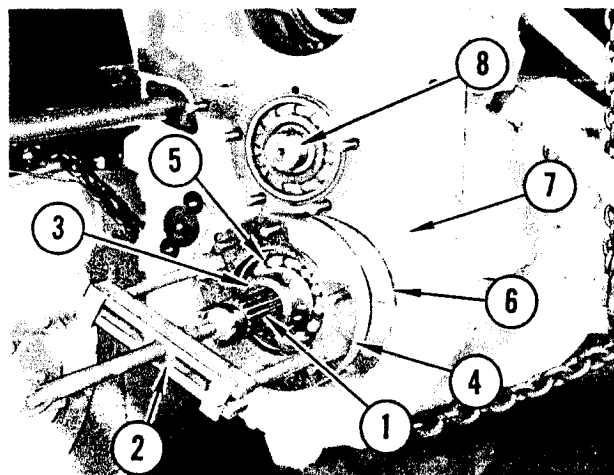

FIGURE 88. LOWER SHAFT ADAPTER REMOVAL
Refer to Figure 88. Install puller bolts into tapped holes in bearing cage flange. Attach puller (2) and remove the following parts in this order. Collar (3), remove "O" ring from inside of collar, bearing cage (4), press or drive bearing (5) from cage. Remove shims (6). Remove five capscrews and lockwashers retaining intermediate plate (7) to housing.